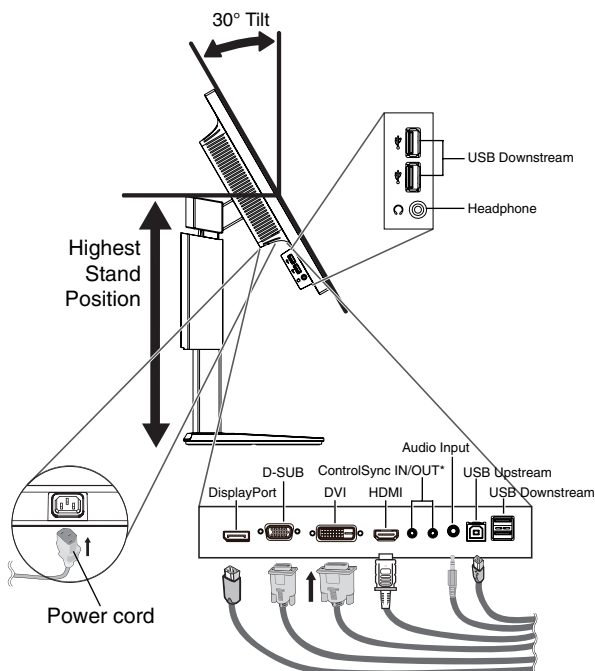

Figure C.1
4. Connect all cables to the appropriate connectors (**Figure C.1**). When using the USB cable, connect the B type connector to the USB upstream port on the right back side of the monitor and the A type connector to the downstream port on the computer (**Figure C.1a**). If using the cord from a USB device, plug into one of the downstream ports of the monitor.